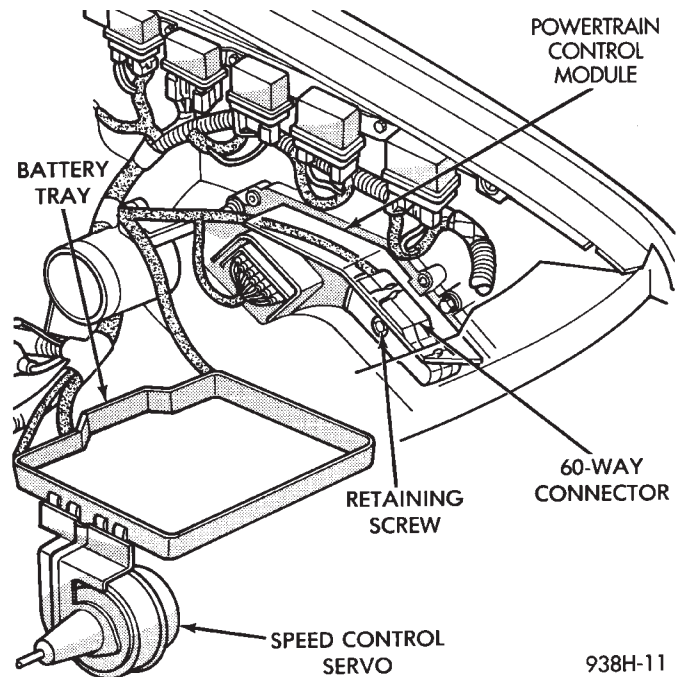
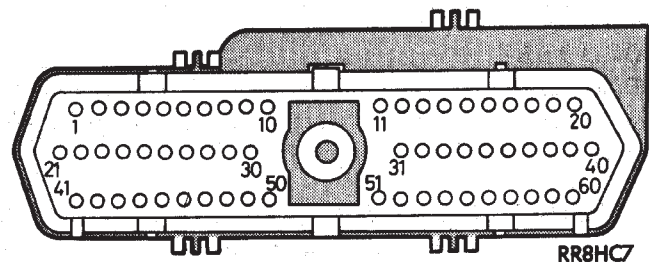

Fig. 7 Powertrain Control Module and Connector Location
Fig. 8 Powertrain Control Module 60-Way Connector Shown from Terminal End
(1) Unplug 60-way connector from the powertrain control module, located next to the battery (Fig. 7).
(2) Remove speed control switch. Refer to Speed Control Switch Removal. Disconnect the 4-way connector.
(3) Using an ohmmeter test continuity between pin 23 of powertrain control module and pin 4 of the speed control switch harness. Refer to Fig. 8 for controller terminal locations.